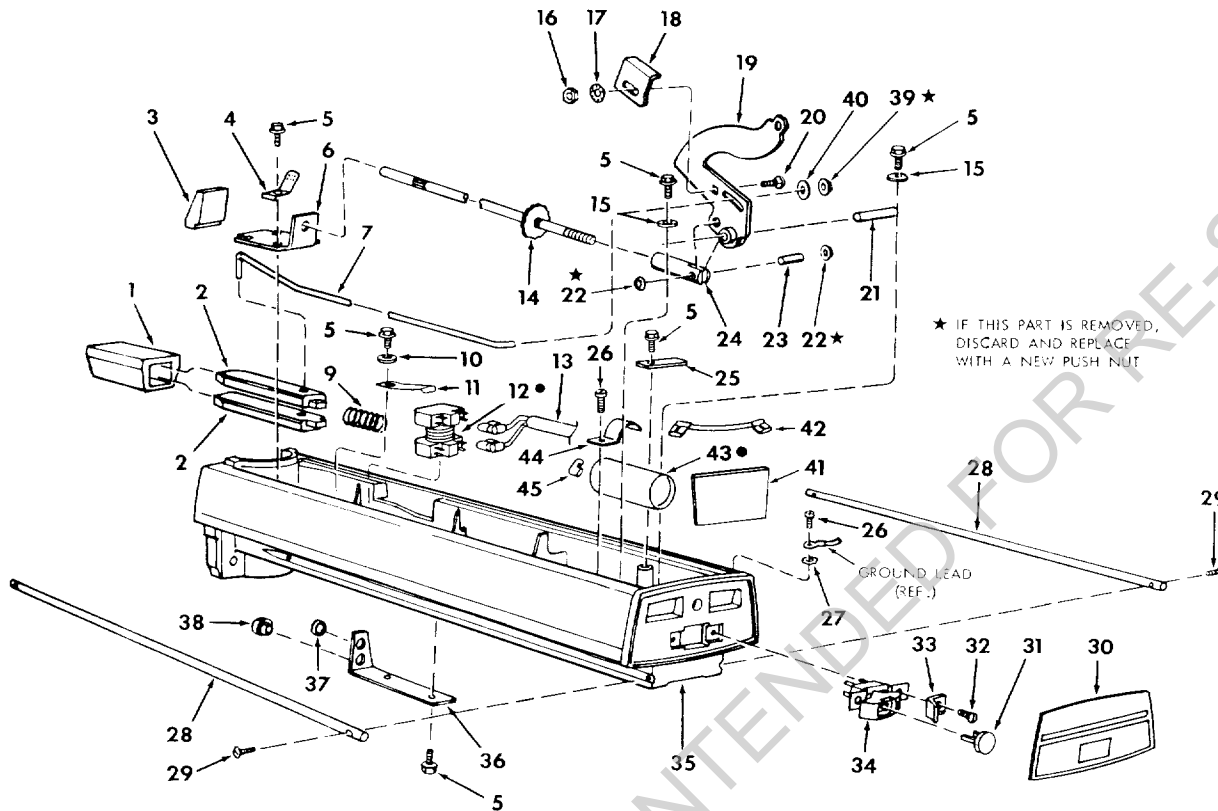

FIGURE 4 – ARM ASSEMBLY
•Any attempt to repair this motor may create a hazard unless repair is done by a qualified service technician. Repair service is available at your nearest Sears Store. Motor relay (See Fig. 4) must accompany motor when motor is returned for service.